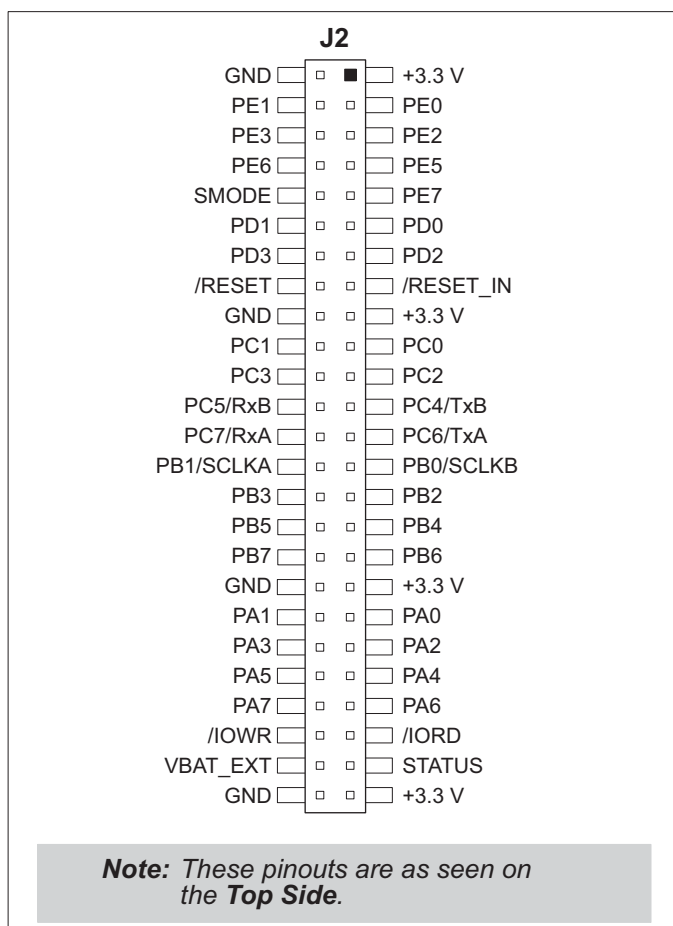

Figure C-4. MiniCore Boards Pinout
- **Module Extension Headers**—The complete pin set of the RCM5600W module is duplicated below header J2. Developers can solder wires directly into the appropriate holes, or, for more flexible development, a 2×25 header strip with a 0.1" pitch can be soldered into place. See Figure C-4 for the header pinouts.
The Prototyping Board provides the user with RCM5600W connection points brought out conveniently to labeled points below header J2. The pinouts for header socket J2 are shown in Figure C-4.